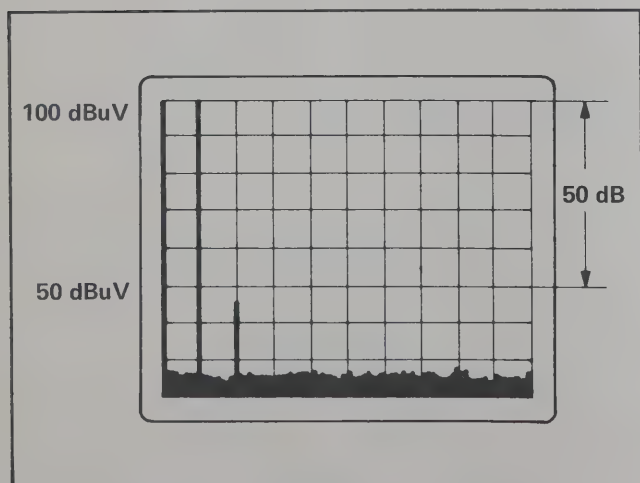

Figure 4.10 Spurious Response Test Display
- d. On the CRT DISPLAY, observe that the second harmonic of the signal is more than 50 dB below the fundamental signal (Figure 4.10).